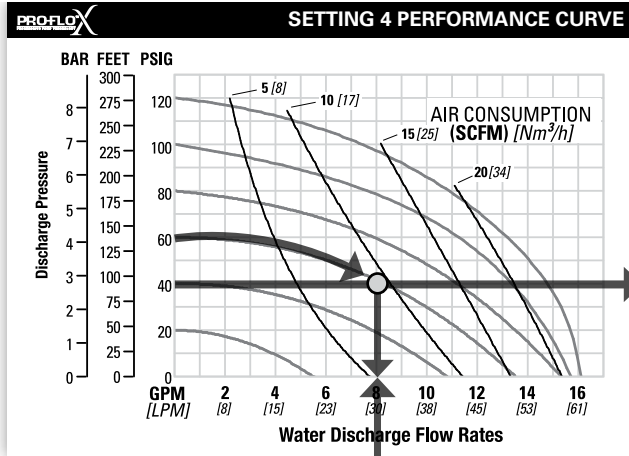

Figure 1
FIGURE 1 The air valve directs pressurized air to the back side of diaphragm A. The compressed air is applied directly to the liquid column separated by elastomeric diaphragms. The diaphragm acts as a separation membrane between the compressed air and liquid, balancing the load removes mechanical stress from the diaphragm. The compressed air moves the diaphragm away from the center of the pump. The opposite diaphragm is pulled in by the shaft connected to the pressurized diaphragm. Diaphragm B is on its suction stroke; air behind the diaphragm has been forced out to atmosphere through the exhaust port of the pump. The movement of diaphragm B toward the center of the pump creates a vacuum within chamber B. Atmospheric pressure forces fluid into the inlet manifold forcing the inlet valve ball off its seat. Liquid is free to move past the inlet valve ball and fill the liquid chamber (see shaded area).
Step 1: Identifying performance at setting 4. Locate the curve that represents the flow rate of the pump with 4.1 bar (60 psig) air inlet pressure. Mark the point where this curve crosses the horizontal line representing 2.8 bar (40 psig) discharge pressure (Figure 1). After locating your performance point on the flow curve, draw a vertical line downward until reaching the bottom scale on the chart. Identify the flow rate (in this case, 8.2 gpm). Observe location of performance point relative to air consumption curves and approximate air consumption value (in this case, 9.8 scfm).